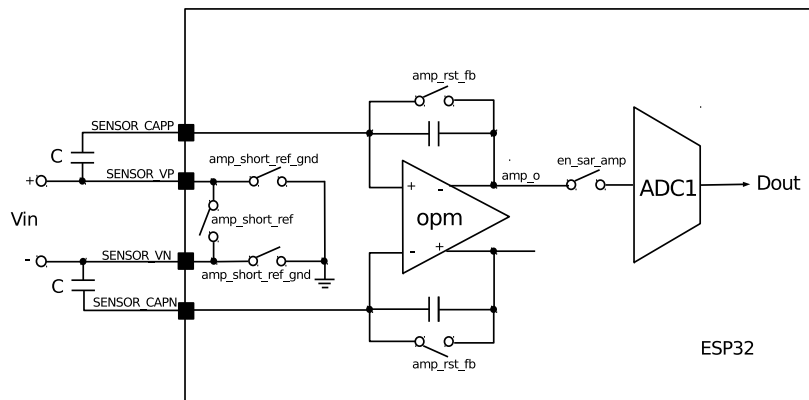

Figure 77: Structure of Low-Noise Amplifier
- Configurable gain by changing the value of two sampling capacitors connected to pins `SENSOR_CAPP` / `SENSOR_VP` and `SENSOR_CAPN` / `SENSOR_VN`; see Figure 77.
The structure of the low-noise amplifier is shown in Figure 77: